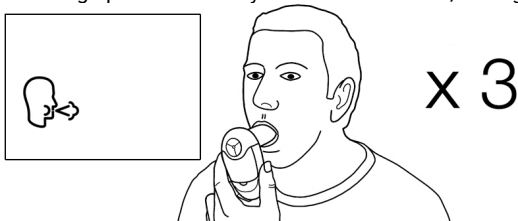

Figure 3. Holding device during test.
1. Turn the device on. ①
5. Instruct subject to hold their head high and hold the Vitalograph COPD-6 ready to blow into the device in front of the mouth, see Figure 3.